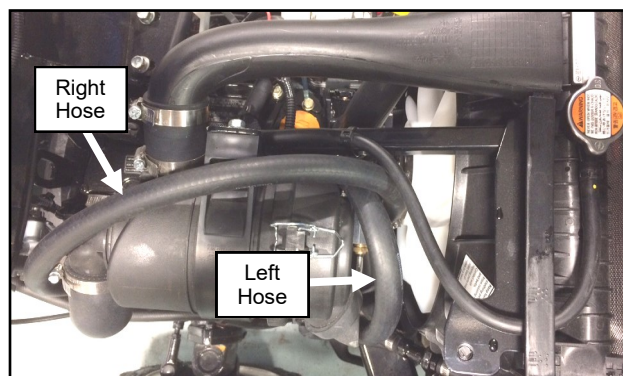

Figure 17.6 (Heater Hose Routing)
- 17.6 Run heater hose per figure 17.6.